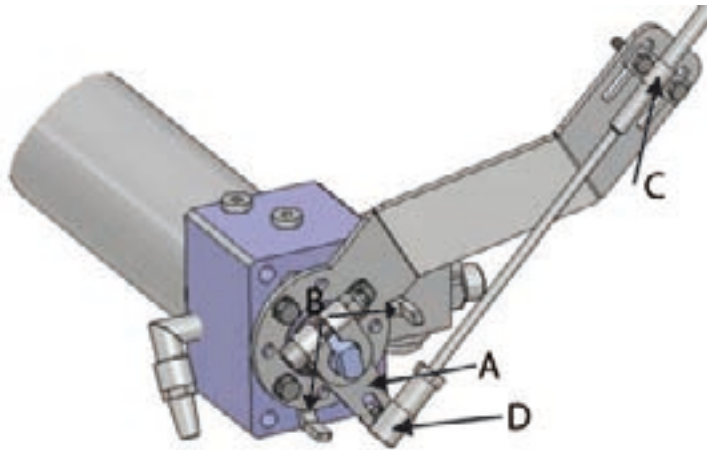

Figure 44. Attaching the operating lever
5. Place the lever (figure 44, point A) on the operating shaft so that it lies between the limiters on the support plate (figure 44, point B).
6. Attach the control cable with a fastener (figure 44, point C) to the support plate and with an angle joint (figure 44, point D) to the lever ball screw.
Fill the reservoir with oil before you start the engine. After you start the engine and put it into forward gear, the oil is transferred from the reservoir into the system and the pump automatically removes air from the system. If the oil level decreases in the reservoir, add some oil. There is a dipstick in the reservoir that you can use to check the oil level (figure 33). Occasionally move the hydraulic cylinder's operating lever back and forth (figure 44, point A) so that the cylinder fills with oil.